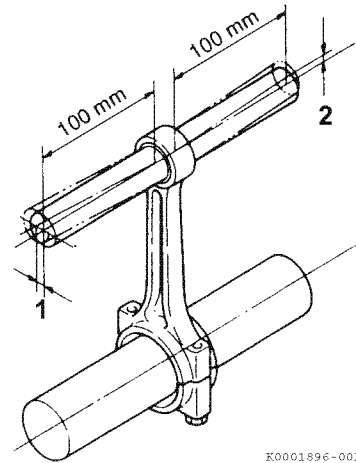
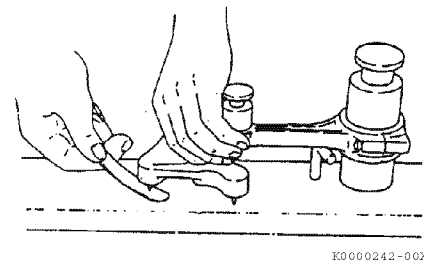

Figure 6-67
Figure 6-68
- Measure the connecting rod twist (Figure 6-67, (1)) and bend (Figure 6-67, (2)) using a connecting rod alignment tool (Figure 6-68). Record the measurements. See *Connecting Rod* on page 6-9 for specifications.